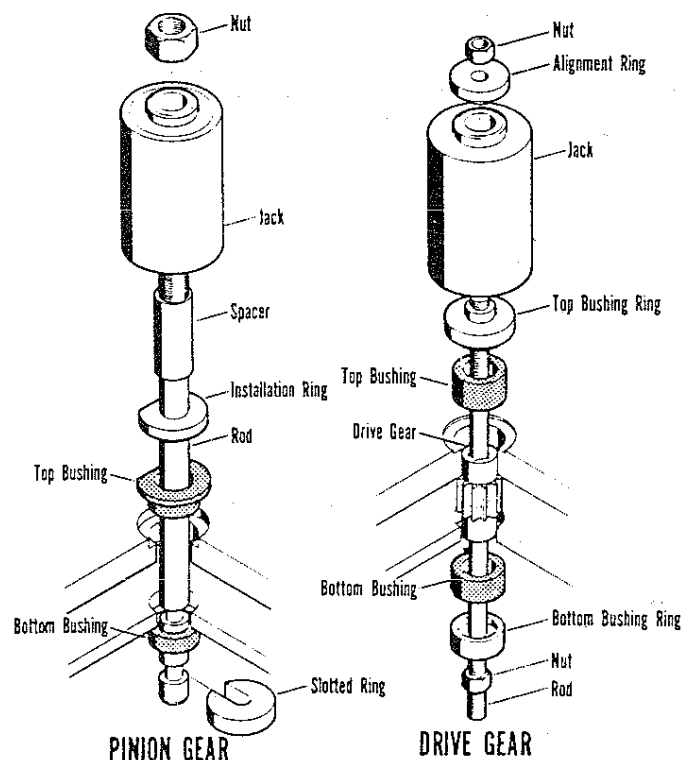

Figure G-2. BUSHING INSTALLATION
7. To install the bushings, assemble the tool as shown in Figure G-2.